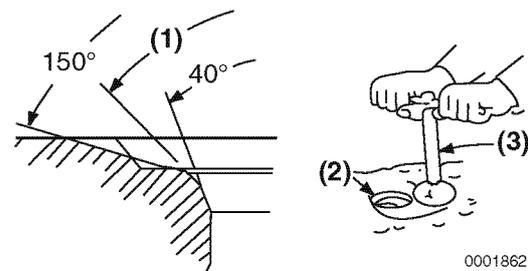

Figure 6-21
Light cutting can be performed by the use of a hand-operated cutter (**Figure 6-21, (3)**).
Valve seat diameter can be adjusted by top-grinding with a 150° stone to make the seat diameter smaller, and bottom-grinding using a 40° stone to make the seat diameter larger. Once the seat location has been corrected, grind and lap the seat angle (**Figure 6-21, (1)**) to specification. See *Cylinder Head on page 6-4 for the service limit*.